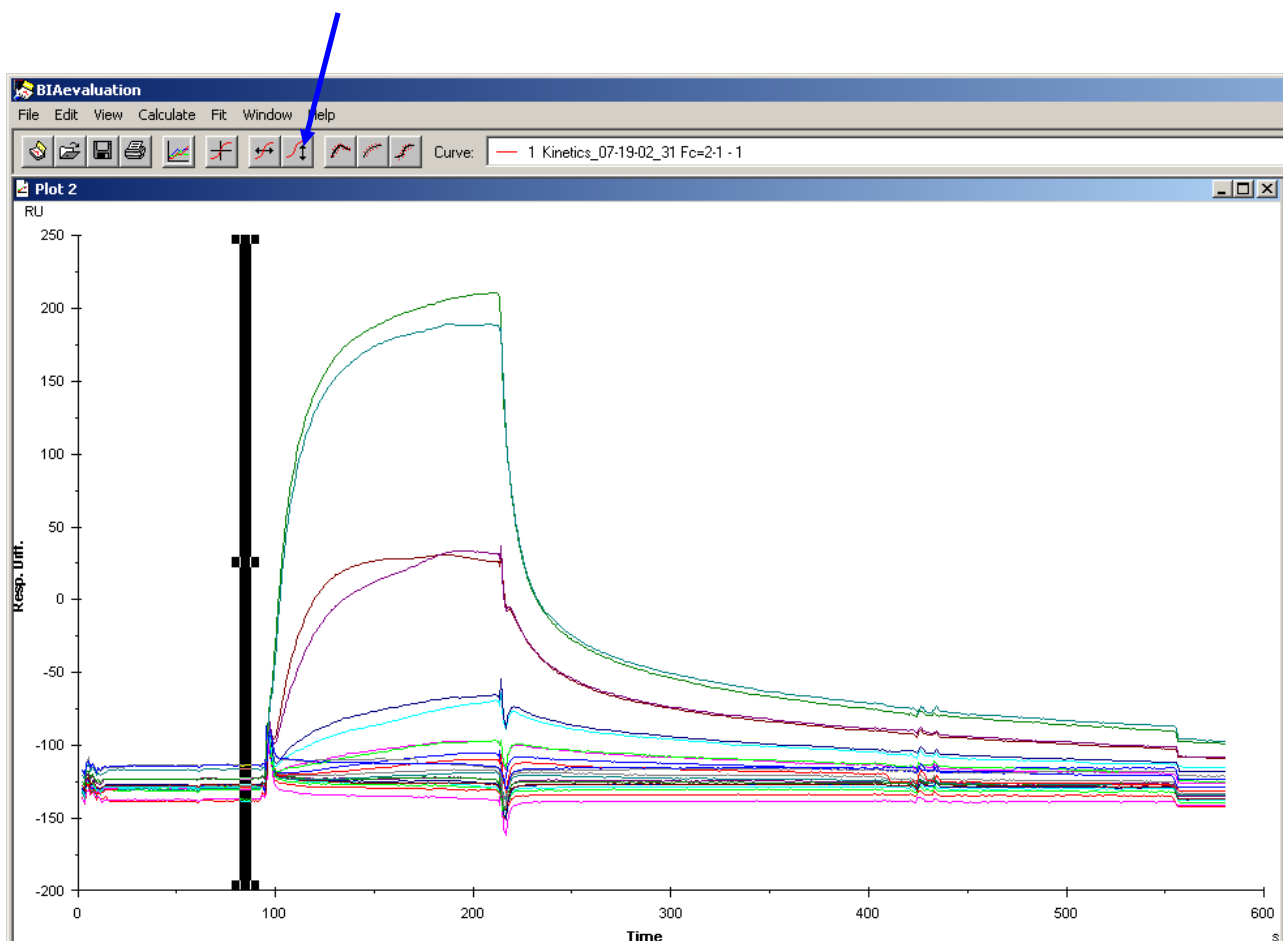

Figure 6.6
- 6.14 Hold down the right mouse key and draw a bar on the region of the sensorgrams as shown in Fig. 6.6 (The region that is selected is that just before the injection).